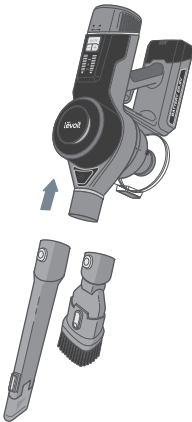

Figure 1.5
2. Slide the crevice tool or dusting brush onto the vacuum body [Figure 1.5].